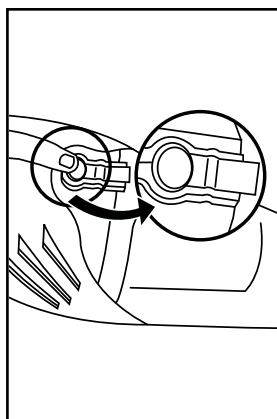

Fig. 8
1. Press dirt cup release and separate dirt cup to remove. (Fig. 8)